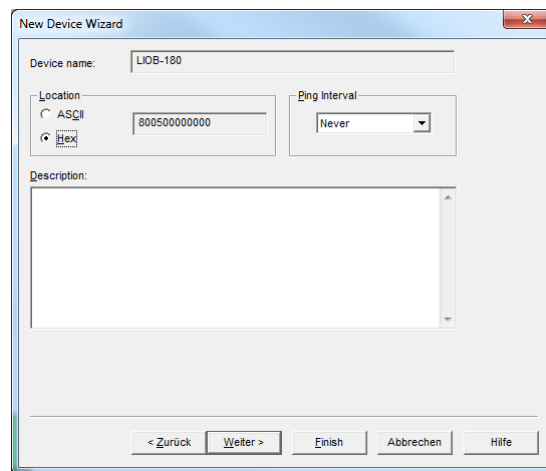

Figure 96: Leave defaults for Location
5. The following dialog shown in Figure 96 appears, click **Next**.